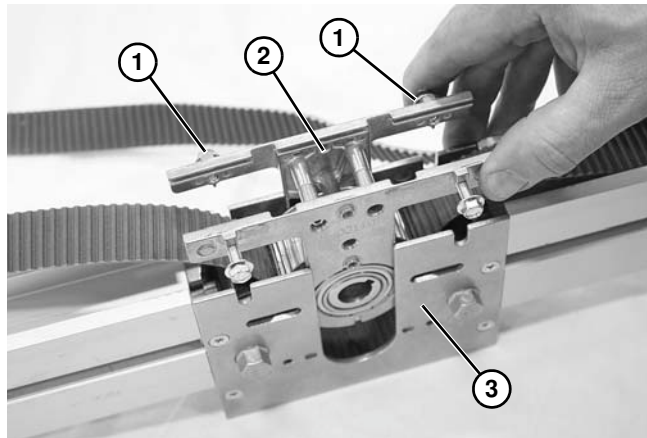

Figure 37
- a. **Non-Drive Side:** Loosen hex flange screws (**Figure 37, item 1**). While pressing in on hex flange screws lift mid drive cartridge (**Figure 37, item 2**) from mid drive assembly (**Figure 37, item 3**).